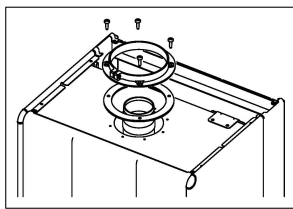

Figure 9a
- Fix the flue connection flange through screwing to the holes on the combi boiler by using the flange gasket. (Figure 9a-9b)